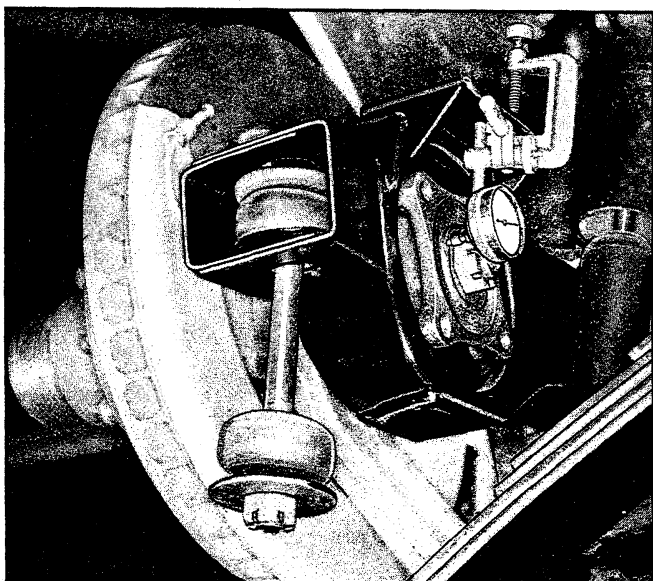

Fig. 11—Checking Wheel Bearing Adjustment (Corvette)
4. Remove wheel and tire assembly. Mount dial indicator (Tool J-8001) on torque arm or adjacent surface and rest pointer on flange or spindle end (fig. 11).